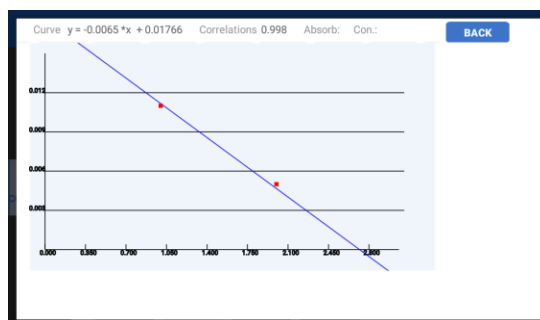

Fig 5.5 New curve
(2) Other buttons introduce
- ①  : click this button to display the current curve, as Fig 5.5